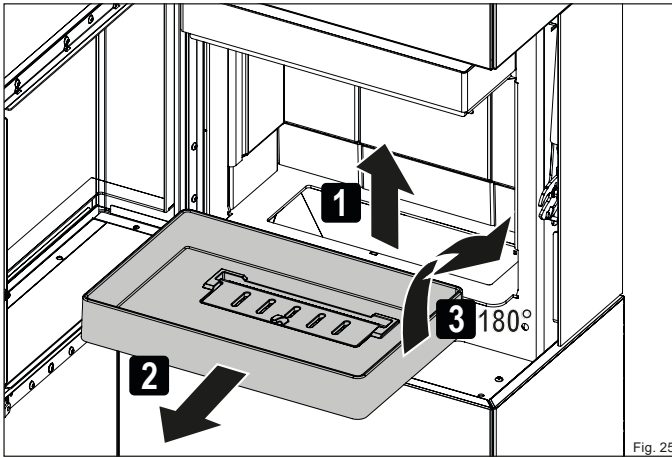

Fig. 25
- ▶ Remove the fire grate (Fig. 25).